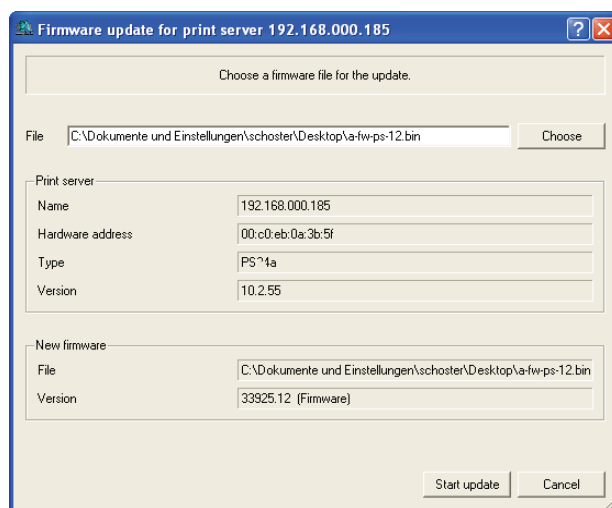

Fig. 23: PRINTSERVER-NetTool – Standard Update
3. *Select **Actions – Firmware Update – Standard Update** from the menu bar. The update dialog appears; see Fig. 23 ⇒  159.*